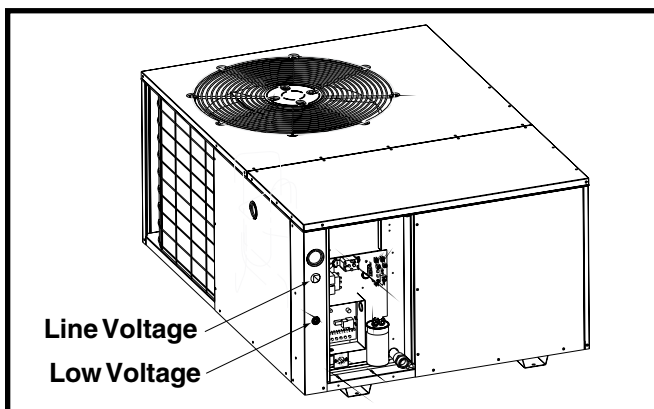

Figure 7. Power Entry
- Provide power supply for the unit in accordance with the unit wiring diagram, and the unit rating plate. Connect the line-voltage leads to the terminals on the contactor inside the control compartment. Extend leads through power wiring hole (Figure 7). Connect L1 & L2 directly to the contactor.
- The low voltage wires must be properly connected. Route 24V control wires through the sealing grommet (Figure 7 (page 7)) near the power entrance. Recommended wire gauge and wire lengths for typical thermostat connections are listed in Table 2, (page 9).